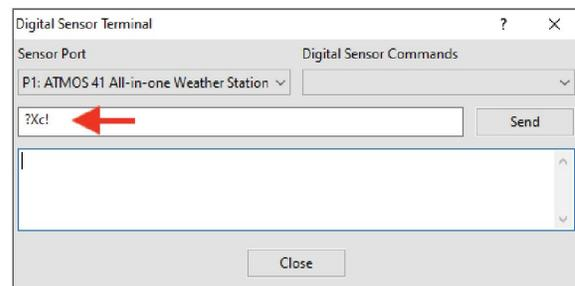

Figure 25. ?Xc! command to verify CAL Factor, entered
- Enter the **?Xc!** command in the prompt field to verify the CAL Factor value was entered correctly (Figure 25).